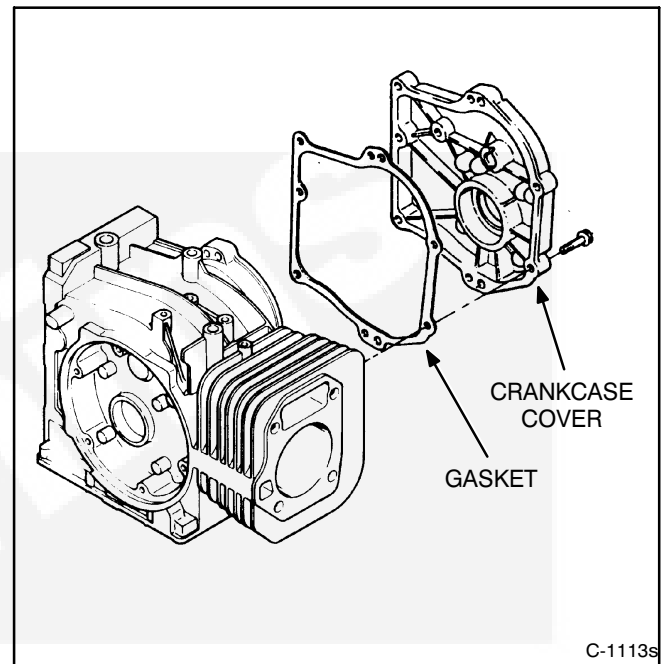

**FIGURE 10-12. VALVE LASH ADJUSTMENT**
3. Clearances are shown in the Specifications section. For each valve, the gauge should just pass between the top of the valve stem and the rocker arm. (see Figure 10-12).